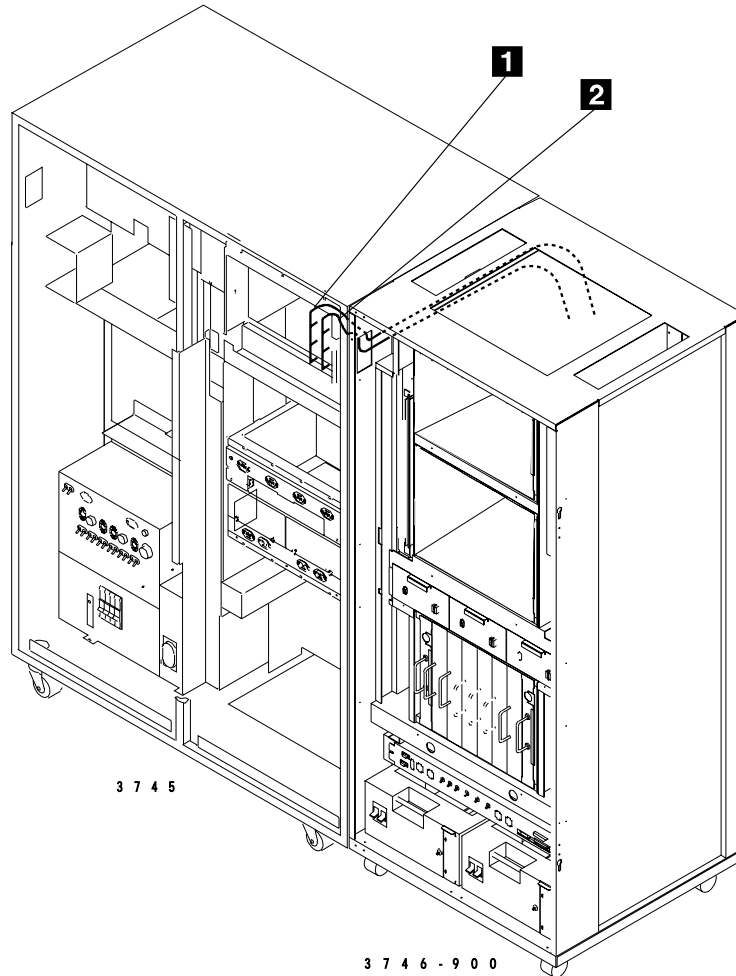

Figure 4-18. Routing of the IOC and DMA Cables From the 3746-900 to the 3745 Base Frame
Step 13. \_\_\_\_ Unroll and route cables **1** and **2** through the upper side windows from the 3746-900 to the 3745 at board 01G-A1 (see Figure 4-18).
- Step 1. \_\_\_\_ In the 3745, locate the four DMA flat cables **1** (see Figure 4-18 on page 4-19). Cables **1** should be labeled: To 3745 W02, W03, W04, and W05.